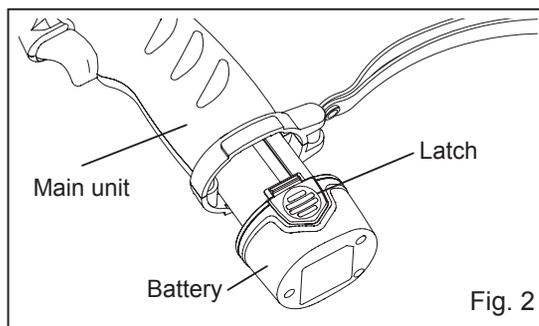

Fig. 2
1. Remove the battery from the main unit by pressing the latch on the battery. (Fig. 2)